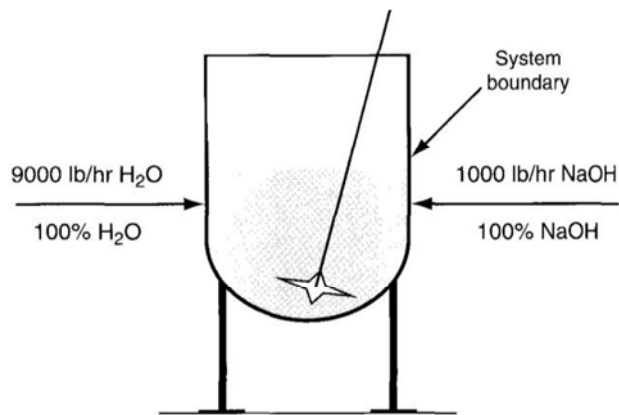
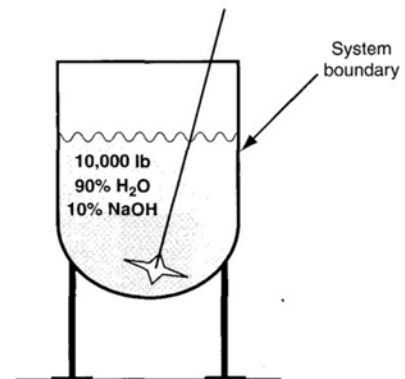

Figure 6.13a Initial condition for the semi-batch mixing process. Vessel is empty.
Figure 6.13b Condition of a semi-batch mixing process after 1 hour of operation.
- ☒ A **Figure 6.13** illustrates a **semi-batch mixing process**. Initially the vessel is empty (**Figure 6.13a**). **Figure 6.13b** shows the **semi-batch system** after **1 hour** of operation. **Semi-batch processes** are **open** and **unsteady – state**.